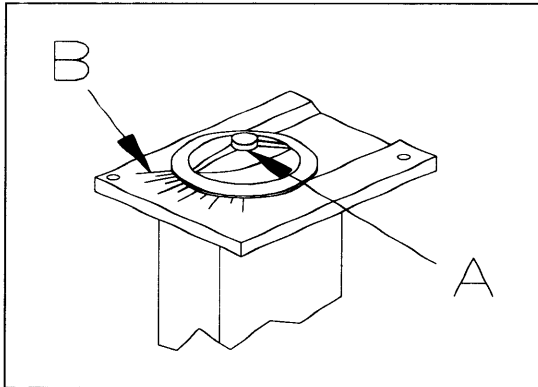

Figure 22-4
- d. Gradually close air damper to decrease O2 reading or open air damper to increase O2 reading until optimum O2 % (4-5%) is reached. Refer to Figure 22-4 & 7, pages 7 & 8 for damper adjustment details.